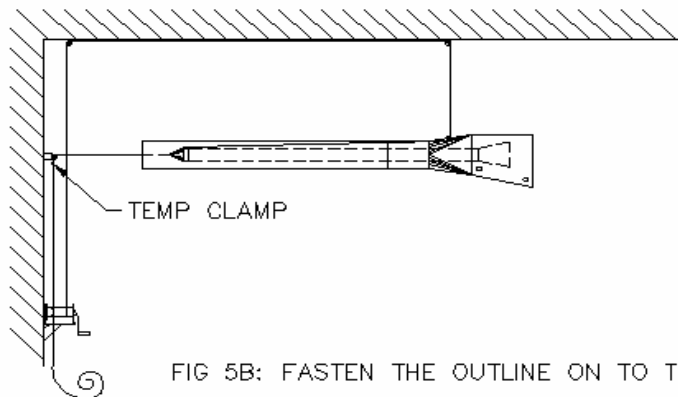

FIG 5B: FASTEN THE OUTLINE ON TO THE WINCH
- 5) The hose should now be in a position so that it does not require the cables to hold its position. Attach a temporary clamp on the inline cable at the pulley closest to the winch. This will prevent the hose assembly from moving during the next steps. The system should now look like FIG 5B.